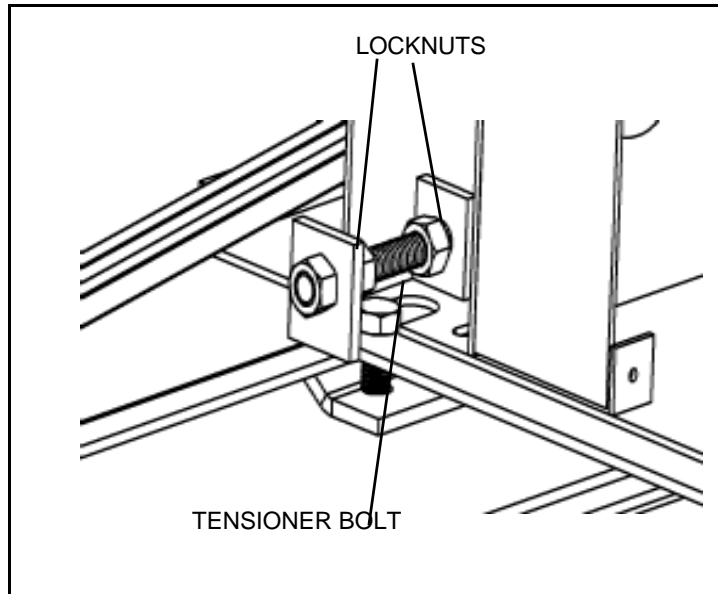

Figure 3.22 Jackshaft Tensioner Bolt
- Turn tensioner bolt to tighten belts. Lock with nut on bolt (Figure 3.22).